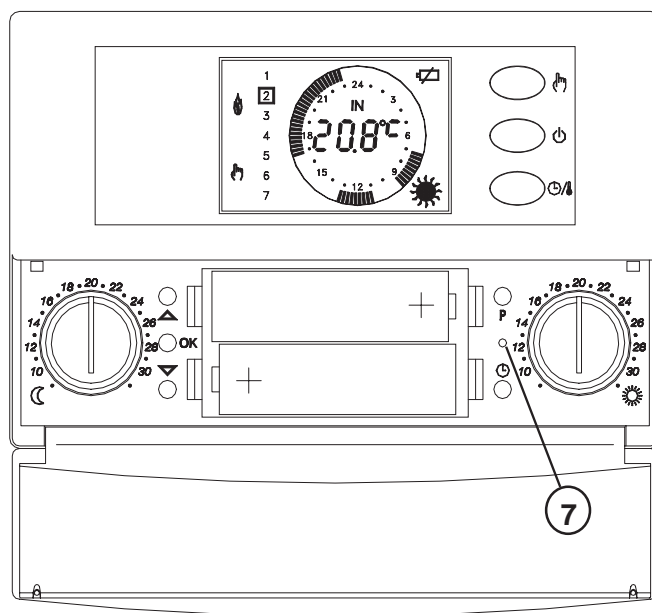

Fig. 2
Insert batteries as indicated and reset the chronostat with a small tip (such as pen) through the hole (7) as shown in Figure 2.